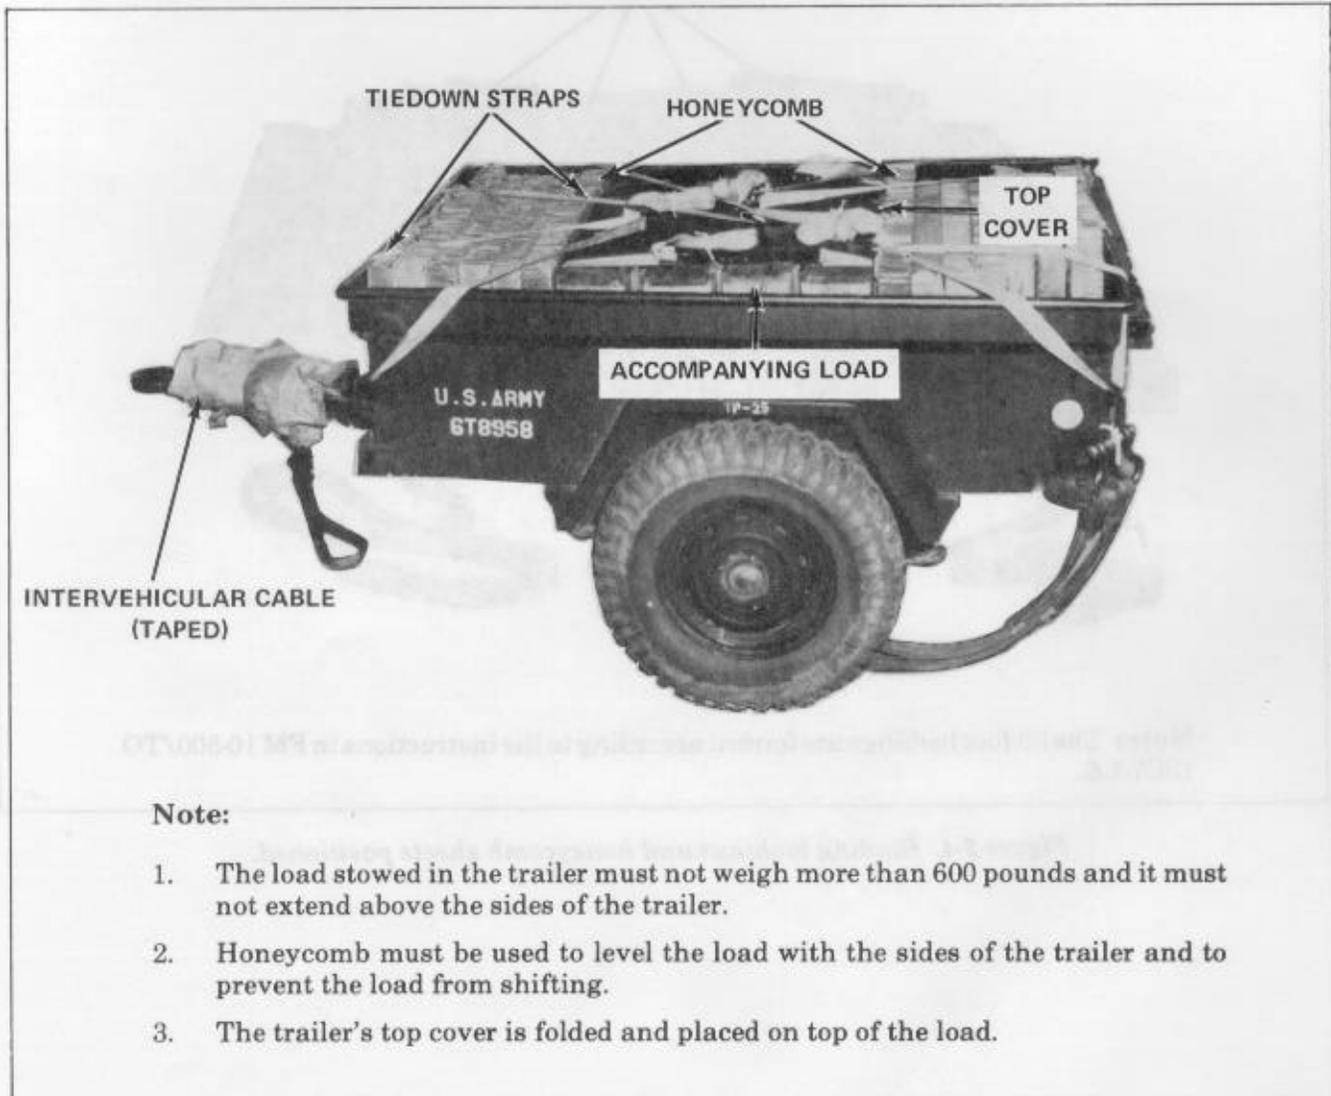

Figure 2-3. Trailer prepared and accompanying load stowed.
b. Preparing Trailer Drawbar. Fold the intervehicular cable, and tape the cable and safety chains to the drawbar (fig 2-3). Secure the hand-brake lever in unlocked position to the front paulin hook with tape.
a. Stowing Load in Trailer. Stow part of the accompanying load and the trailer's cover in the trailer as shown in figure 2-3.